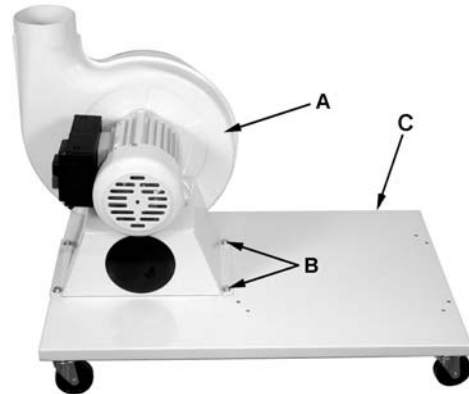

Figure 2
1. Install *four* casters to the under side of the base as pictured in Fig. 2.
Referring to Figure 2: